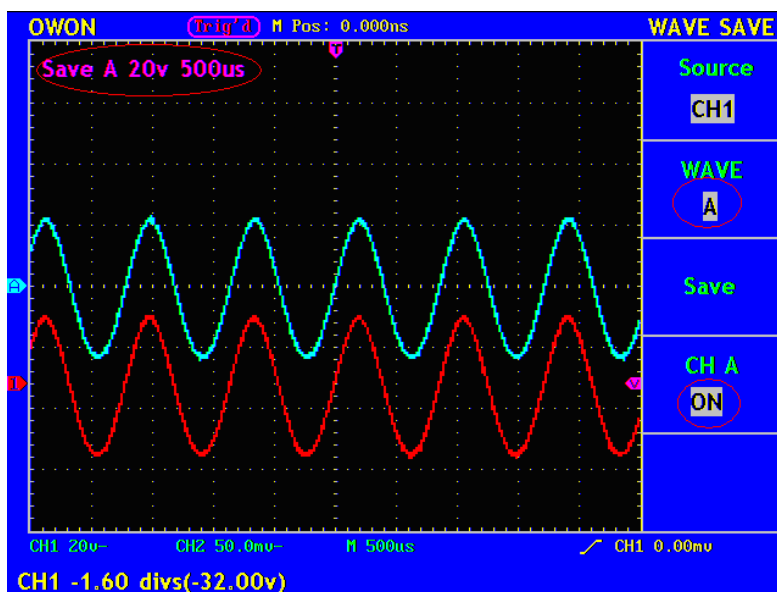

Fig.53 Wave SAVE/RCL
- Press F2 next to Wave to select from one of four locations, the CH(X) would show the location you've chosen.
- Press F4 next to CH(X) to change to ON. Now you will see a stored waveform displayed on the screen with whatever waveforms are already on there.
- Example to save/recall a waveform from location A. Fig.53.